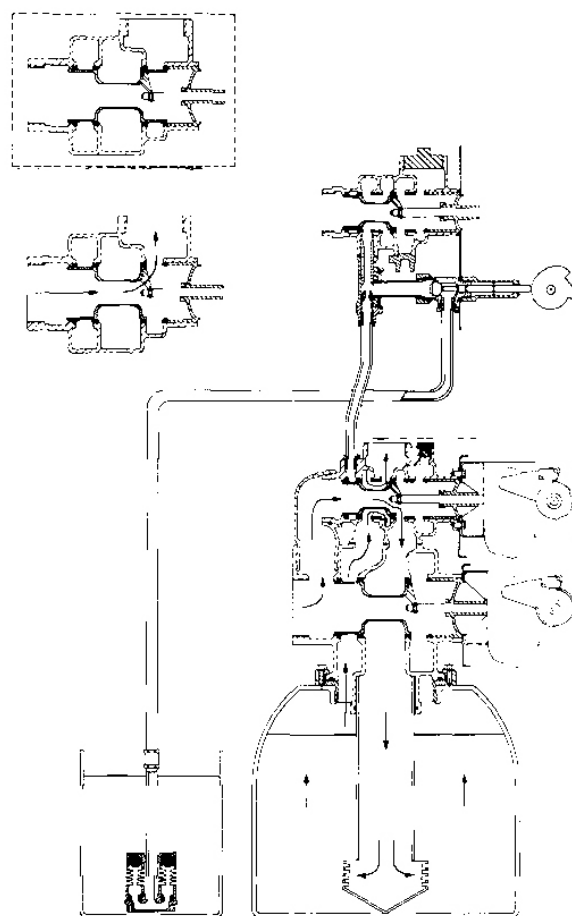

Figure 53. Backwash position.
4. If optional no hard water bypass piston is used, water flow to outlet is prevented by an extended section of the service piston that closes the outlet port from bypass water until the end of rapid rinse. See Figure 53.